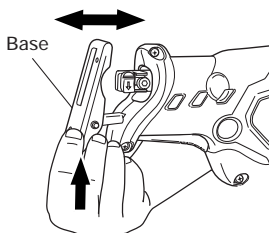

Fig. 12
- 2) Push up the base tip and jog the base back and forth. (Fig. 12)